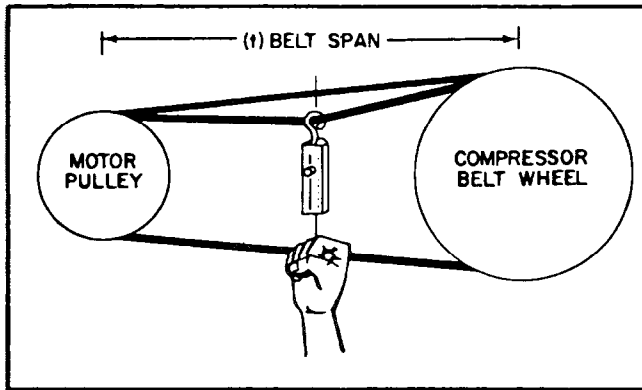

Figure 6-4. Spring Scale Method.
A. Measure the belt span (t) as shown in Figure 6-4.